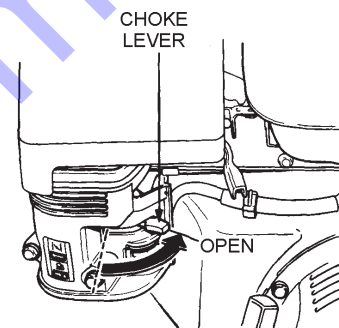

Figure 3. Engine Choke Lever (Open)
- Place the **choke lever** (Figure 3) in the "OPEN" position if starting a **cold** engine.